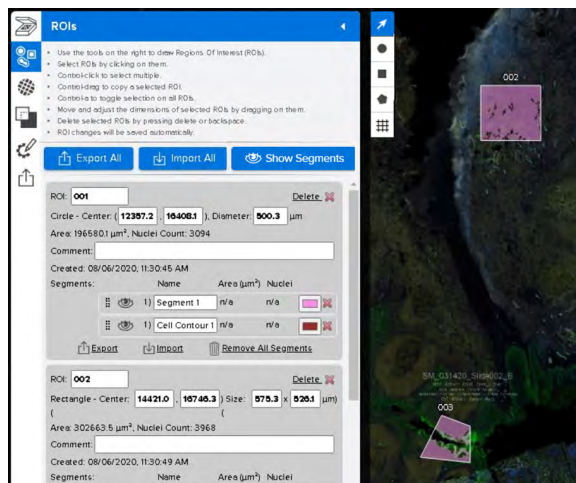

Figure 41: Scan Workspace ROIs List with Export Image link
1. **Open the ROIs List** (see Figure 41).